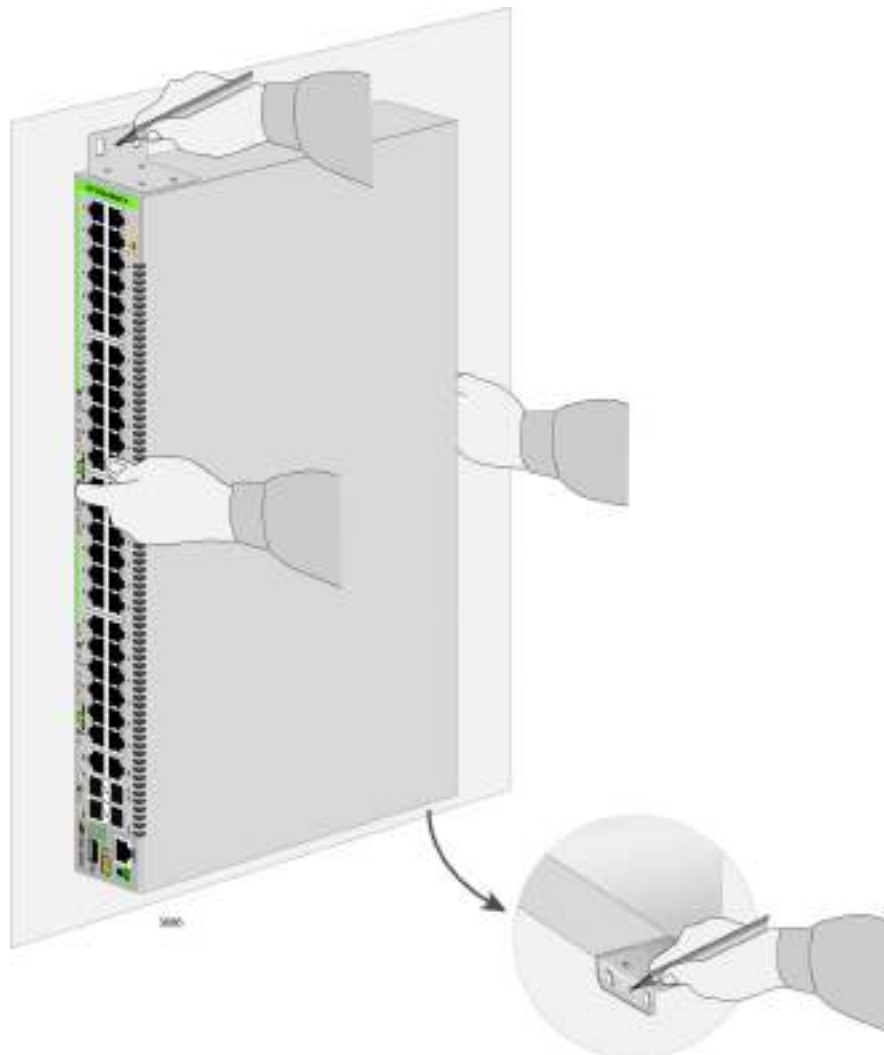

Figure 38. Marking the Locations of the Bracket Holes on a Concrete Wall
3. Have another person hold the switch on the concrete wall at the selected location for the device while you use a pencil or pen to mark the wall with the locations of the two screw holes in the brackets. See Figure 38. The selected wall location should adhere to the recommendations in “Choosing a Site for the Switch” on page 54 and “Recommended Minimum Wall Area Dimensions” on page 76.